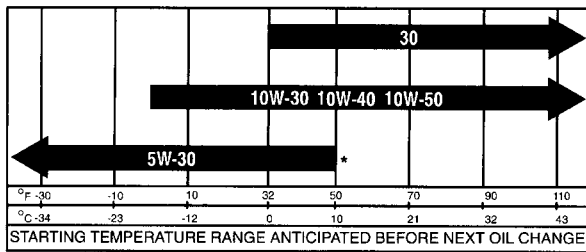

Figure 22
3. The engine uses any high-quality 10W30 detergent oil having the American Petroleum Institute -API- "service classification" CF or higher. Choose a viscosity according to the table in Figure 22.